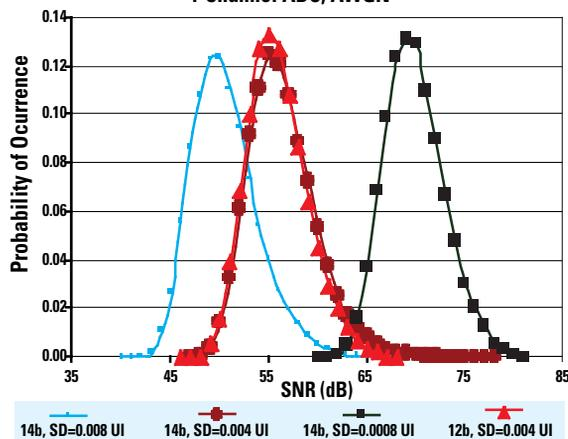

Figure 7. SNR Distributions for a 4-Channel Interleaved ADC System with Various Skew Distributions
While the closed form expression for the PDF provides good insight, it does not take into account the impact of clock skew in combination with quantization noise. One way to gain insight into these combined effects is to model them using a tool such as Matlab. For example, a 4-channel time-interleaved ADC system model was implemented and simulated in Matlab. The ADCs used in the model employed perfect quantizers so that the distortion contained in the output of the ADC was attributable only to the quantization operation and sample clock skew. Hence, the sensitivity of SNR to clock skew can be isolated from other distortion effects that may also be observed in a sampled signal in the real world. Once a model has been constructed and tested for validity, it can then be used to examine sensitivity relative to the standard deviation of the clock skew and number of time-interleaved ADCs. For example, *Figure 7* shows the results of simulations for resolutions of 14 and 12 bits when the input signal is band-limited Additive White Gaussian Noise (AWGN). A Gaussian signal was used in this example because its statistics are similar to many wide-band digital signals. Because skew is a random variable with respect to each ADC clock input, the model allows us to run several thousand simulations in which each simulation run assigns random but fixed values of skew to each ADC clock, drawn from a zero mean Gaussian distribution with a chosen standard deviation (in UI). The SNR is calculated for each simulation run, and a histogram of SNR values is generated after completion of all the runs. Examples are plotted in *Figure 7*.
The key observation to be drawn from *Figure 7* is that for a given Standard Deviation (SD) of the clock skew, in fractions of a unit interval (UI = one clock period), the SNR distribution will be dispersed. A secondary observation is that as expected,
SNR degrades as the standard deviation of the clock skew increases. In the 14-bit case, we see that when clock skew reaches 0.8% UI, the SNR of the sample stream has seriously degraded. Because most designs must meet a minimum target SNR, the histogram data represented in the plots in *Figure 7* enable the designer to begin evaluating design specifications for the clocking system driving the time-interleaved ADCs. The 90%, 95%, and 99% confidence intervals for SNR associated with a particular clock skew distribution can be estimated from the histogram data, allowing the designer to determine the suitability of a clocking design exhibiting such performance.